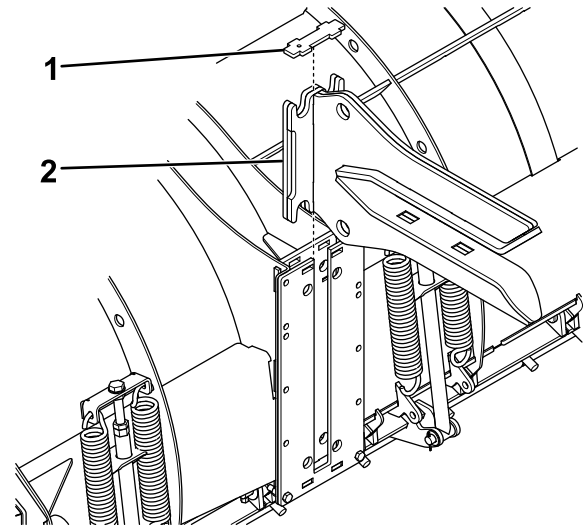

Figure 9
4. Slide the attachment fork between the hitch plate and bottom attachment plate (Figure 9).